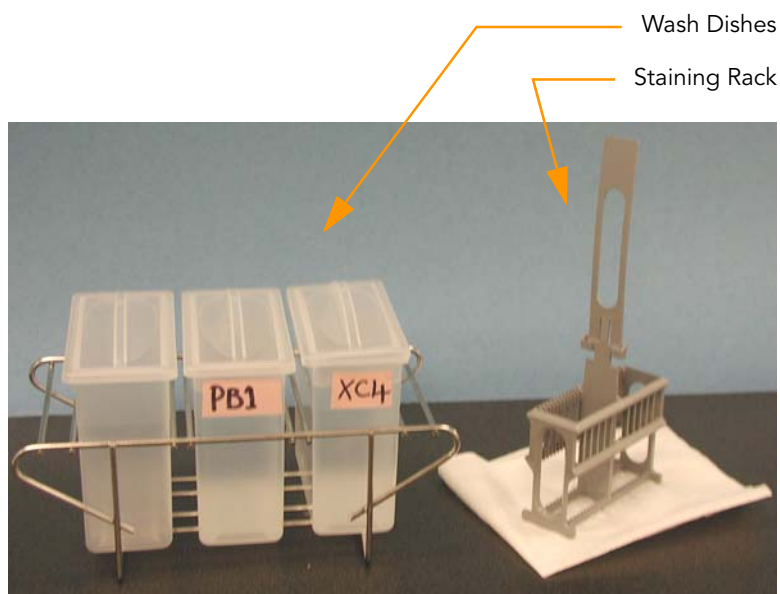

Figure 144 PB1 & XC4 Wash Dishes with BeadChip Rack
1. Set up two top-loading wash dishes, labeled "PB1" and "XC4" (Figure 144).